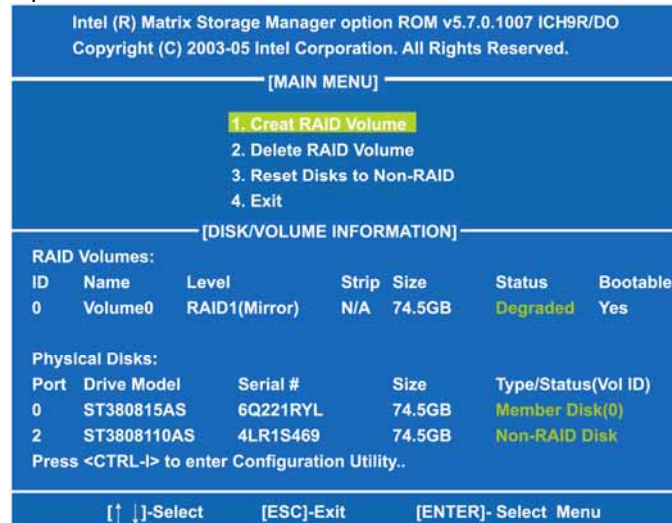

Figure 4
- (3)-2 After you press <CTRL+ I>, the **Create RAID Volume** screen will appear (as Figure 4). If you want to create a RAID array, select the **Create RAID Volume** option in the Main Menu and press ENTER.